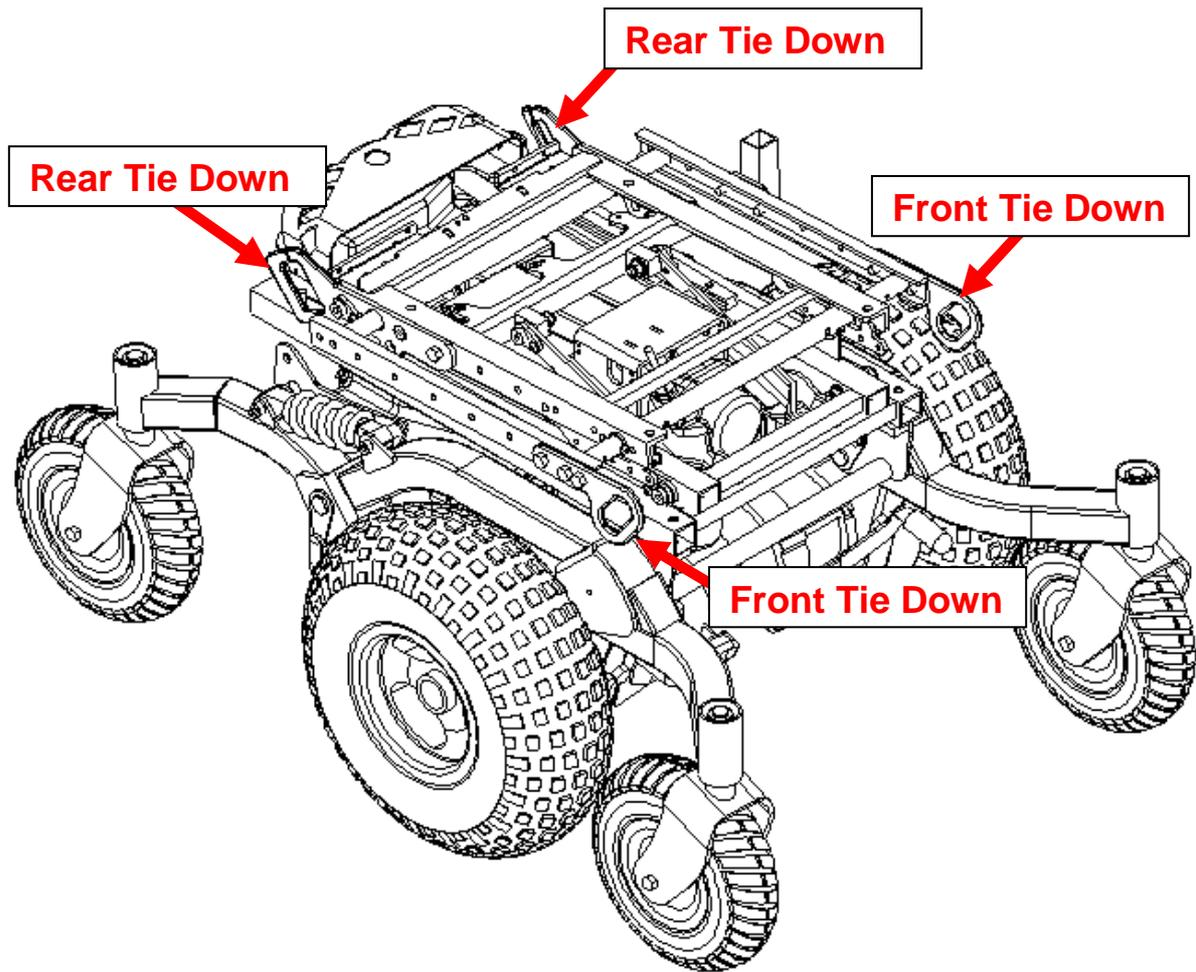
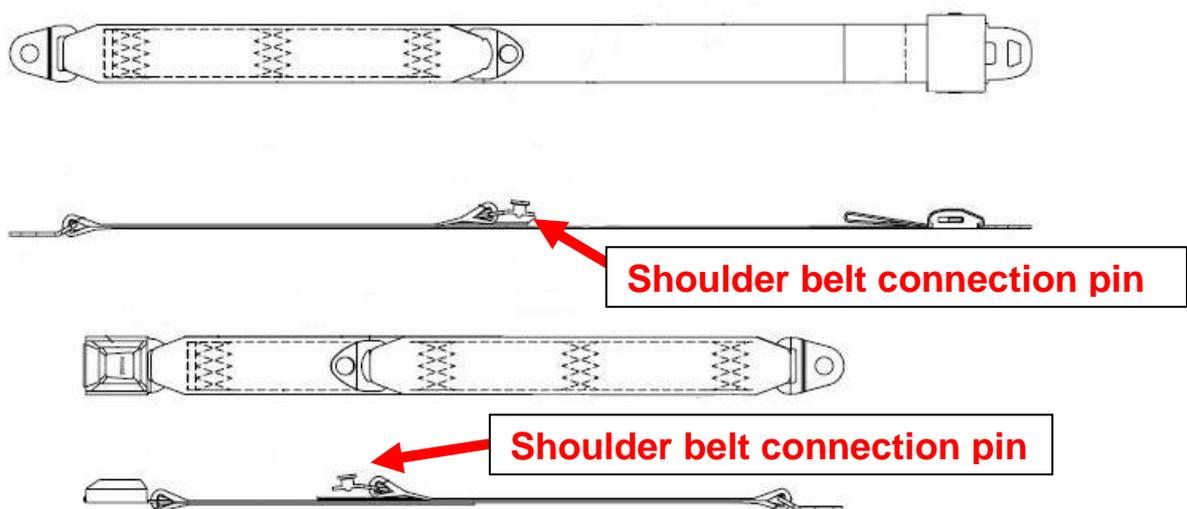

Figure 3 Frontier wheelchair with seat removed showing locations of front and rear tie downs used in the frontal impact test
Figure 4 The wheelchair anchored pelvic belt
- Turn on your power chair (see figure 3 in section 6.5.4)
The wheelchair has been dynamically tested with a wheelchair anchored pelvic belt as per the requirements in Annex A of WC19 and ISO7176-19. The belt anchor points are shown in figure 3. The seatbelt is anchored over a 14mm spigot by an M8x20 Grade 12.9 button head socket screw. Do not replace the pelvic belt with a different style of pelvic belt; the belt supplied is designed to accommodate use on either side of the vehicle. The belt is equipped with standard interconnect hardware to enable attachment of suitably equipped vehicle anchored shoulder belts. See Figure 4. The free end of the vehicle anchored shoulder belt is installed over the shoulder belt connection pin.